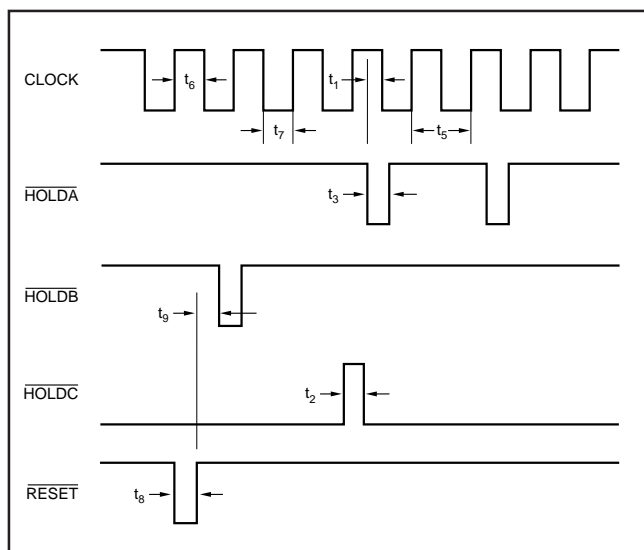

FIGURE 8. Start of the Conversion.
**CLOCK**—An external clock has to be provided for the ADS7864. The maximum clock frequency is 8MHz. The minimum clock cycle is 125ns (Figure 8,  $t_5$ ), and the clock has to remain HIGH (Figure 8,  $t_6$ ) or LOW (Figure 8,  $t_7$ ) for at least 40ns.
**RESET**—Bringing reset LOW will reset the ADS7864. It will clear all the output registers, stop any actual conversions and will close the sampling switches. Reset has to stay LOW for at least 20ns (Figure 8,  $t_8$ ). The reset should be back HIGH for at least 20ns (Figure 8,  $t_9$ ), before starting the next conversion (negative hold edge).
By bringing one or all of the  $\overline{\text{HOLDX}}$  signals low, the input data of the corresponding channel X is immediately placed in the hold mode (5ns). The conversion of this channel X follows as soon as the AD-converter is available for the particular channel. If other channels are already in the hold mode but not converted, then the conversion of channel X is put in the queue until the previous conversion has been completed. If more than one channel goes into hold mode within one clock cycle, then channel A will be converted first if  $\overline{\text{HOLDA}}$  is one of the triggered hold signals. Next channel B will be converted and at last channel C. If it is important to detect a hold command during a certain clock-cycle, then the falling edge of the hold signal has to occur at least 10ns before the falling edge of clock. (Figure 8,  $t_1$ ). The hold signal can remain low without initiating a new conversion. The hold signal has to be high for at least 15ns (Figure 8,  $t_2$ ) before it is brought low again and hold has to stay low for at least 20ns (Figure 8,  $t_3$ ).
In the example of Figure 8, the signal  $\overline{\text{HOLDB}}$  goes low first and channel B0 and B1 will be converted first. The falling edges of  $\overline{\text{HOLDA}}$  and  $\overline{\text{HOLDC}}$  occur within the same clock cycle. Therefore, the channels A0 and A1 will be converted as soon as the channels B0 and B1 are finished (plus acquisition time). When the A-channels are finished, the C-channels will be converted. The second  $\overline{\text{HOLDA}}$  signal is ignored, as the A-channels are not converted at this point in time.